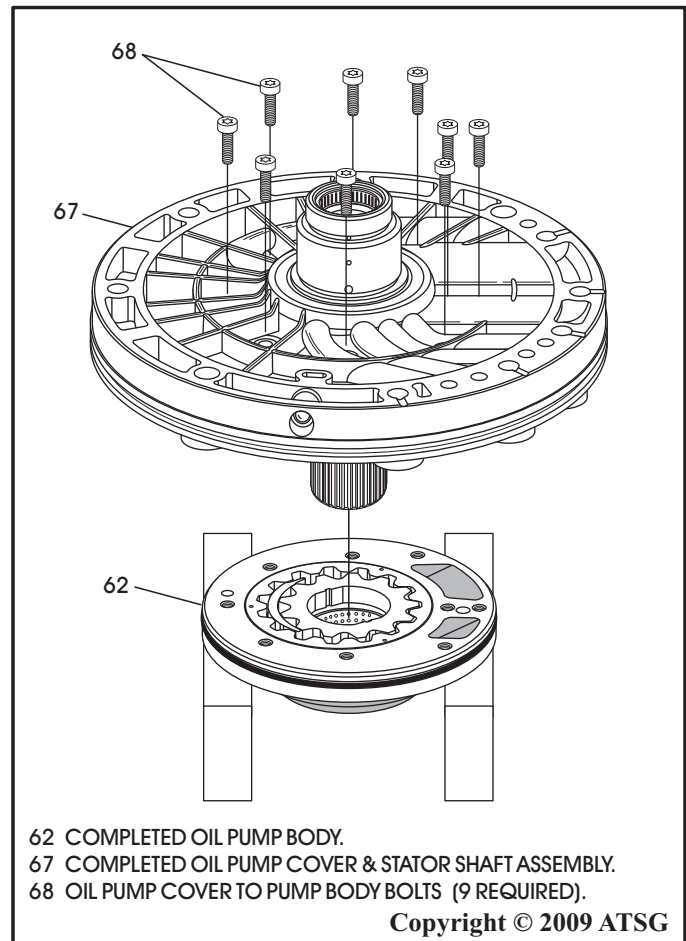

Figure 91
14. Install oil pump cover onto oil pump body, as shown in Figure 91, and install nine retaining bolts finger tight.